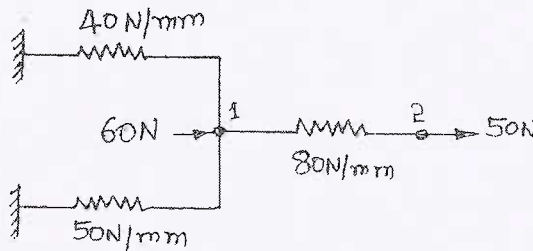

Fig.Q1(c)
- Using minimum potential energy determine the nodal displacement of a spring system shown in Fig. Q1(c). (08 Marks)